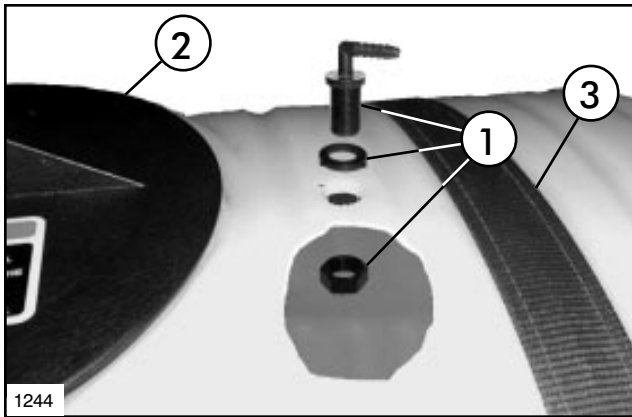

FIG. 7
15. Drill a 3/4" hole through top of tank between Tank Lid and L.H. Tank Strap. Assemble the Bleed Fitting in hole. See FIG. 7.